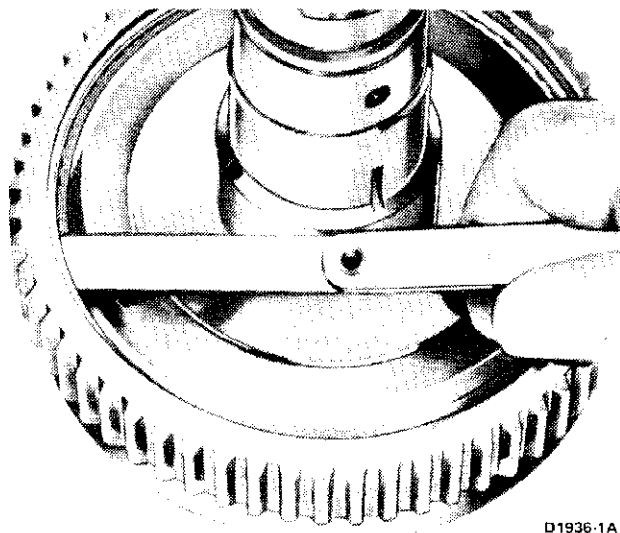

FIG. 37 Checking Output Shaft Snap Ring Clearance
5. If either the output shaft or ring gear has been replaced, place the assembled unit with the gear face down on the bench, push the shaft downward, and check the clearance between the top of the snap ring and its groove (Fig. 37). If this clearance exceeds 0.002 inch, replace the snap ring with a thicker ring to reduce the clearance to less than 0.002 inch. Selective snap rings are available in several thicknesses for this purpose.